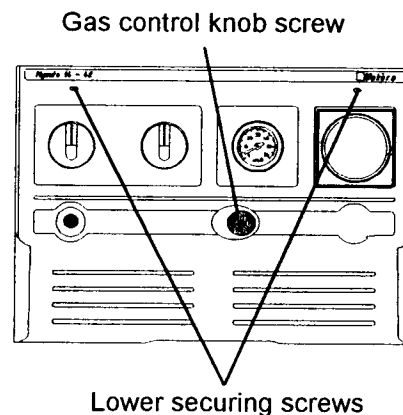

Fig.10
5.3.1 Release the centre screw of the gas control knob and pull knob forward remove the 2 screws securing the lower control panel to the upper outer casing. (Fig.10)